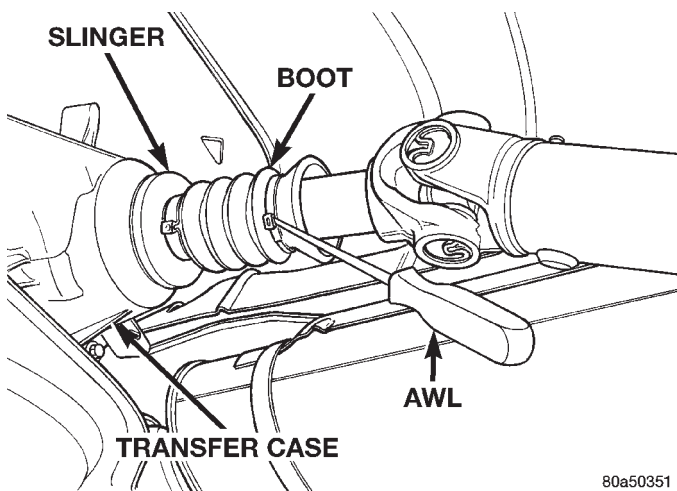

Fig. 10 Output Boot—Typical
- (1) Remove output shaft boot. Spread band clamp that secures boot on slinger with a suitable awl. Then slide boot off shaft (Fig. 10).